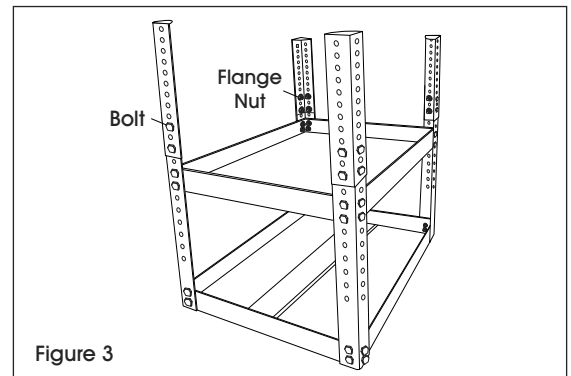

Figure 3
5. Place feet at desired height on outside of legs and attach using four bolts and four flange nuts on each foot. Tighten all bolts. (See Figure 3)